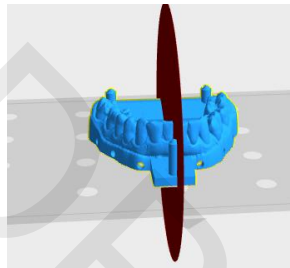

Figure 19 X plane cutting interface
② X Plane: As shown in Figure 19.